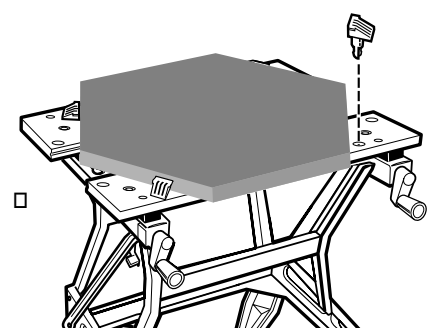

FIG. 10
- The four supplied swivel pegs can be used in any of the holes in the front and rear jaws. The pegs are used in any of the holes in the front and rear jaws. The pegs are used to extend the dimensions of your Workmate's holding capacity. (Figure 10)
- Les quatre mordaches orientables comprises peuvent être utilisées dans l'un des trous des mâchoires arrière et avant. Les mordaches servent à prolonger la capacité de serrage du centre de projets. (fig. 10)